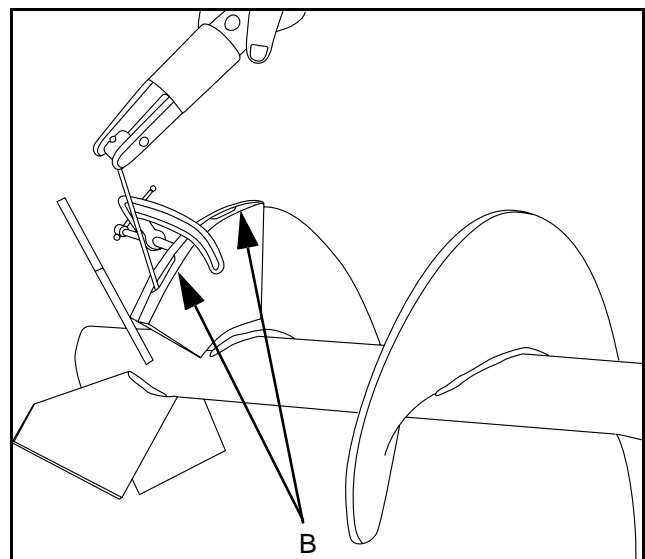

Figure 6 - 60 Installing Liners
- 6) On the first and last liners of each flight make a weld at the exposed edge for extra strength "C". (Figure 6 - 61)